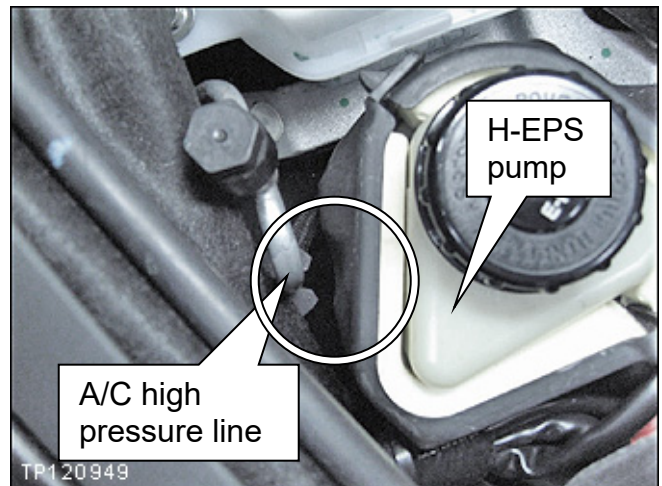

Figure 12
- Check the location circled in Figure 12.